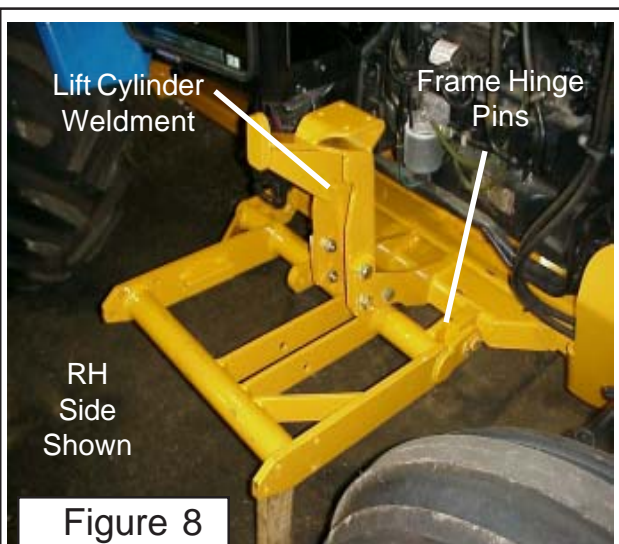

Figure 8
11. Install RH Wing Lift frame. The wing lift frame pivots on two hinge pins, one to the front and one to the rear. When installing these pins they must be aligned in a way that will allow the retaining bolt to be installed (See Figure 8 & 9).